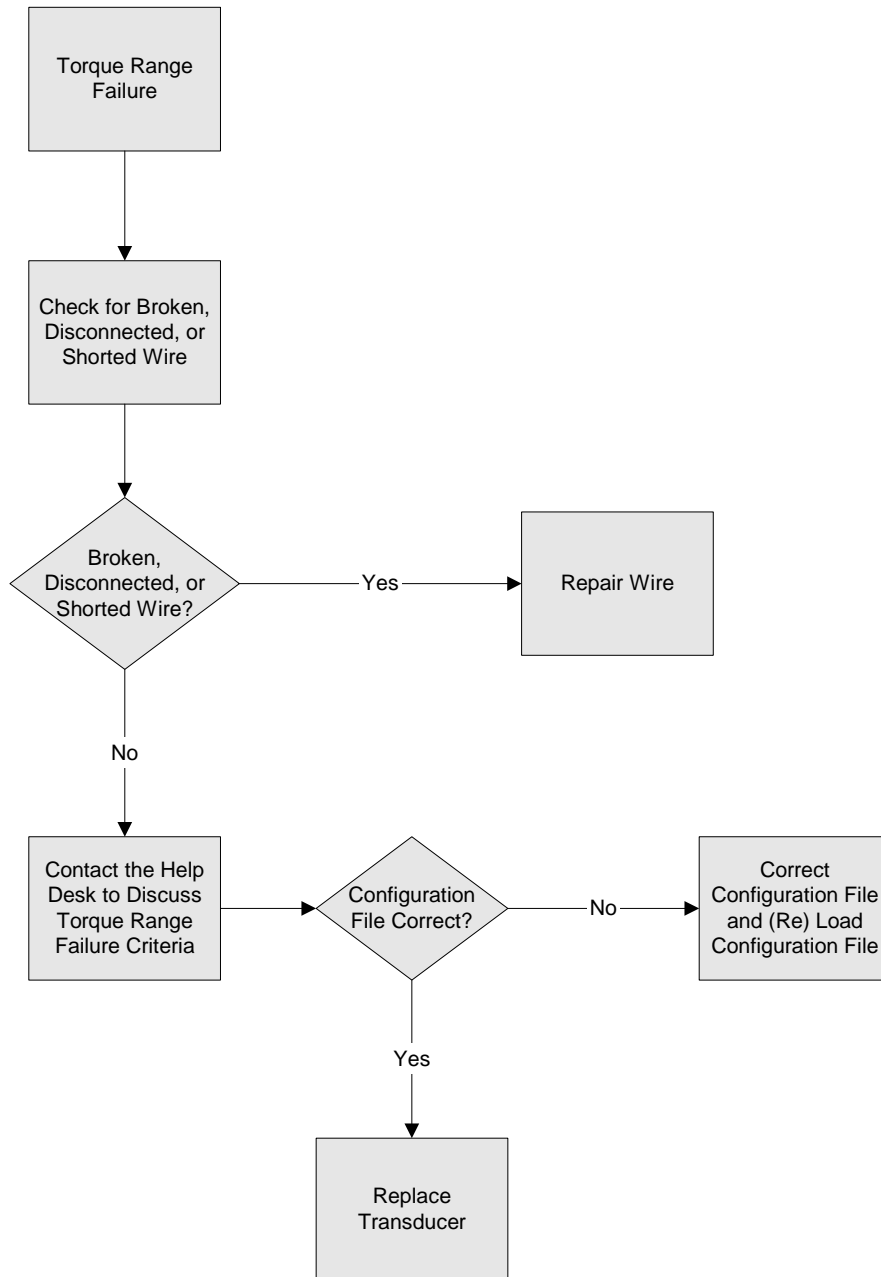

Figure 41: Torque Range Failure Troubleshooting
- d. Transducer Range Failure – Refer to Figure 41.